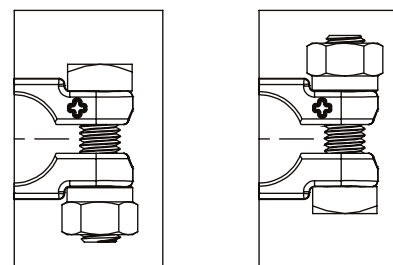

FIGURE 2
3. ATTACH THE BASE ASSEMBLY TO THE POSITIVE BATTERY POST OVER THE COVER. SECURE THE ASSEMBLY BY TIGHTENING THE M8 SHOULD HEX NUT TO  $12 \pm 1$  N·m. M8 NUT AND BOLT CAN BE ASSEMBLED IN LEFT OR RIGHT HAND ORIENTATION FOR BEST ACCESS DURING ASSEMBLY (FIGURE 2).